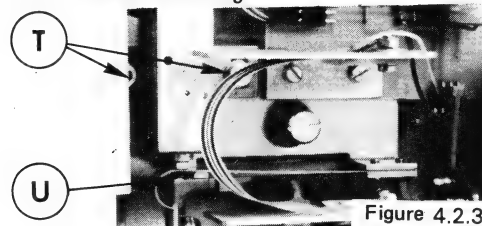

Figure 4.2.3a
- Unscrew the screws T and U (see figure 4.2.3a).